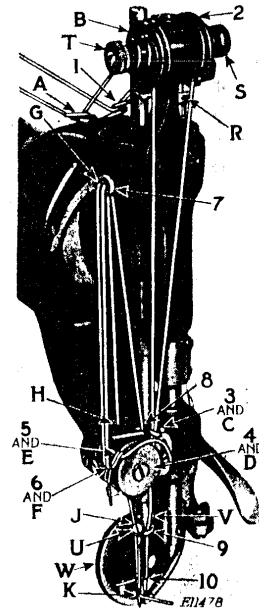

FIG. 5
Machines 18-25, 18-26 and 18-36. Turn the balance wheel over from you until the needle bar is at its highest point. Loosen screws (U and V, Fig. 5) and insert the needles as far as they will go up into the needle bar, and with the long grooves of the needles facing each other. Then tighten screws (U) and (V). Note that it is necessary to swing the roller presser (W, Fig. 5) upward in order to make the clamping screw (V) accessible.
Thread for the outside needle or the one farthest from the balance wheel—turn thumb nut (T, Fig. 5) to the right to increase thread tension, or to the left to decrease the tension.
Thread for the inside needle or the one nearest the balance wheel—turn thumb nut (S, Fig. 5) to the right to increase thread tension, or to the left to decrease the tension.